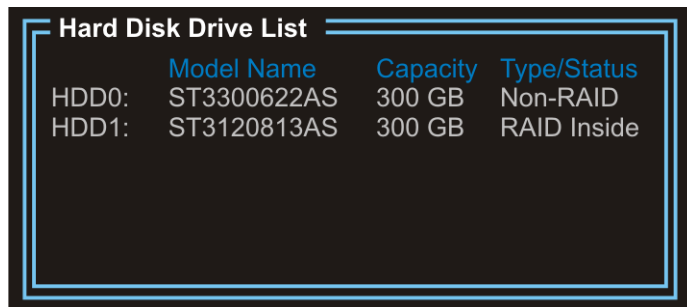

Figure E-16: Reverted HDD
Step 4: The reverted HDD is now listed as non-RAID (Figure E-16).